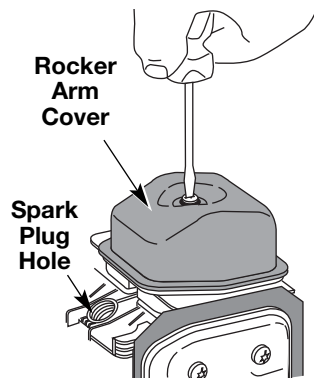

Fig. 36
7. Clean dirt from around the rocker arm cover. Remove the screw holding the rocker arm cover with a large flat blade screwdriver or Torx T-25 bit (Fig. 36). Remove the rocker arm cover and gasket.
- The piston is at the top of its travel while looking in the spark plug hole (Fig. 36)